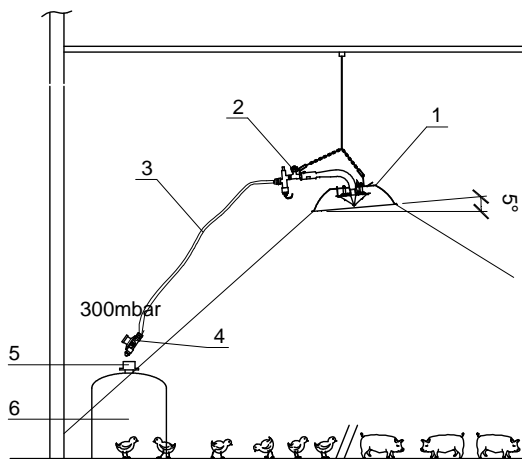

Fig. 23
El Kit MiniFarm esta compuesto por (Fig 23):
Mini Farm Heating Kit is composed of (Fig 23):
- 1- Assemble all the components by means of the nuts of the flexible tube, as shown in Fig. 23. Make sure that gaskets are in good conditions..
Le Kit Mini-Farm se compose de (Fig 23):